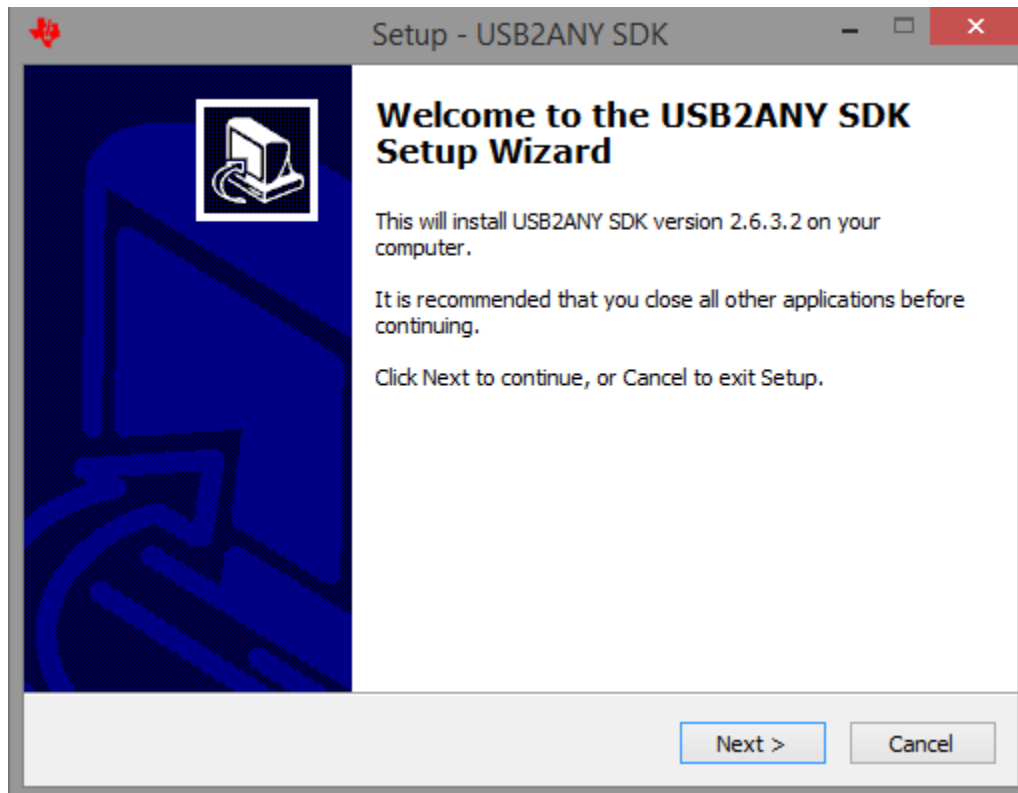

Figure 1-14. USB2ANY Installation
11. The USB2ANY installation starts after the completion of Python installation. From the dialog shown in Figure 1-14, click the Next» button.